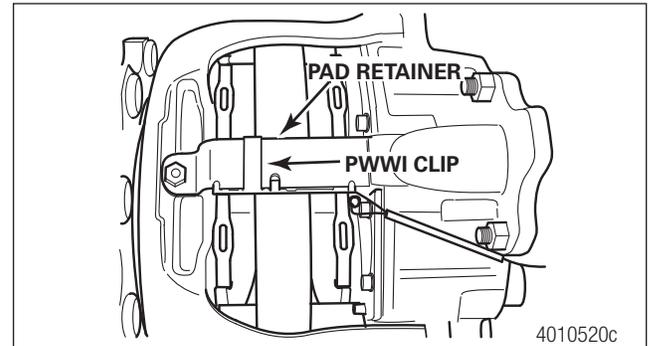

Fig. 6.5 PWWI Clip
STEP 1 - If the brake is equipped with a PWWI, remove the PWWI clip from the pad retainer before removing the pad retainer from the caliper. Figure 6.5.